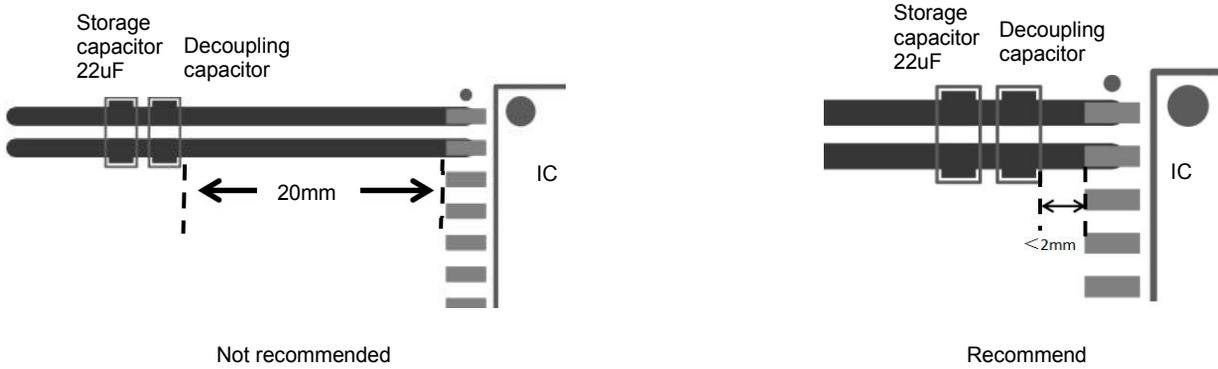

Figure10-1
1. The decoupling capacitors and energy storage capacitor of VCC and GND1, VISO and GND2 should be placed as close the chip pins as possible to the chip pins to reduce loop area and parasitic inductance of PCB traces. General control should be within 2mm. The decoupling capacitor is placed close the chip, and the energy storage capacitor is placed outside. As shown in Figure10-1.